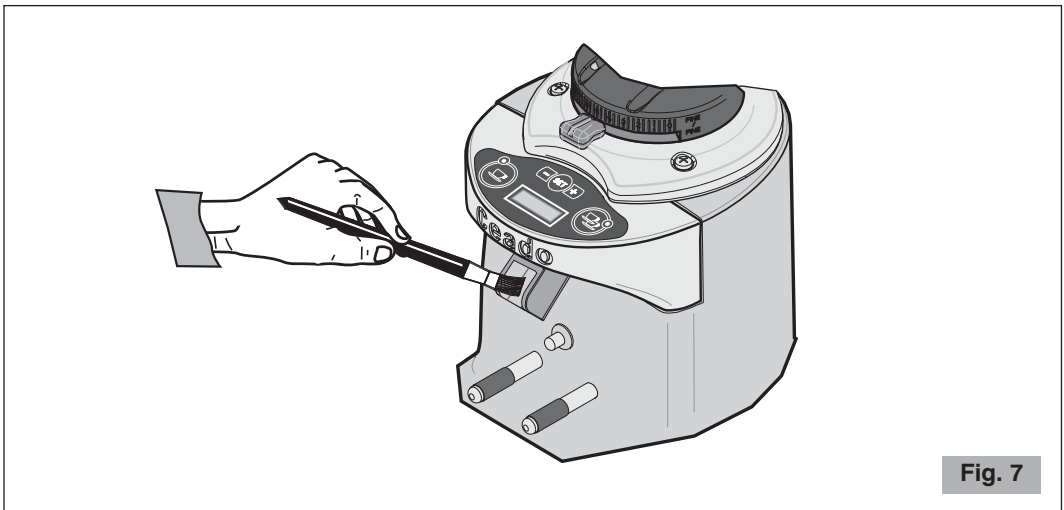

Fig. 7
- Always clean the discharge opening with the brush provided (Fig. 7).